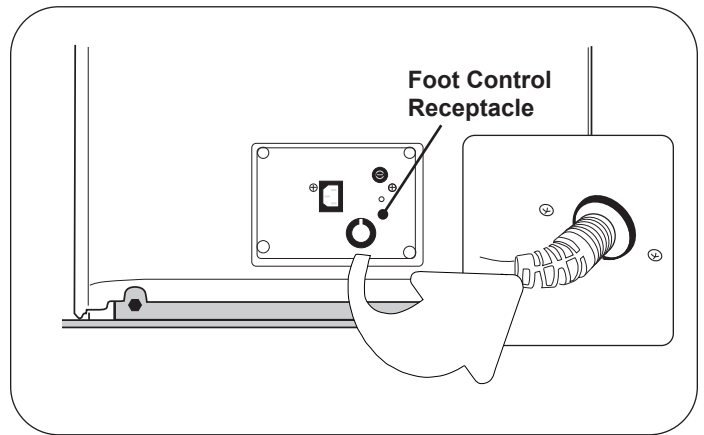

Figure 21. Foot Control Receptacles
2. Insert the male plug of the foot control cord into the receptacle on the table (Figure 21). Make sure the plug is fully seated. See (Figure 9) for proper insertion of the foot control plug. Failure to properly insert the foot control plug can cause some functions to not operate properly.